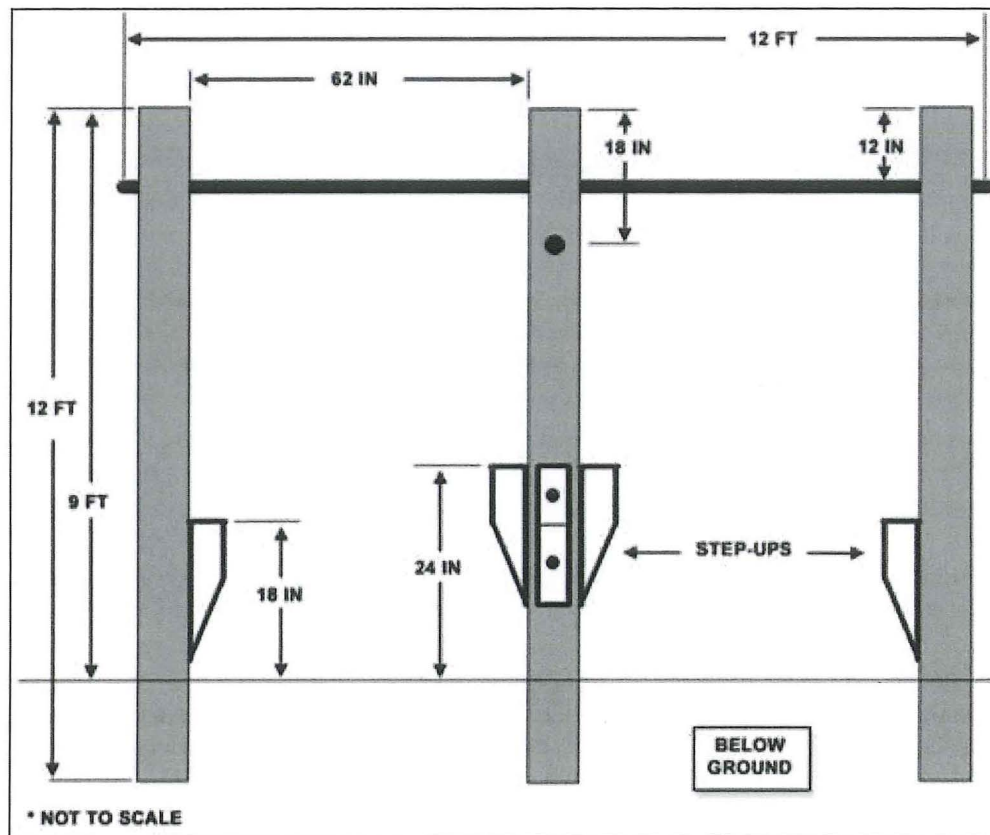

Figure B-3. Climbing bar dimensions, side view
- The step-ups on the outside 6 by 6 posts are 18 inches from the ground; the step-ups on the inside post are 24 inches above the ground (Figure B-3).